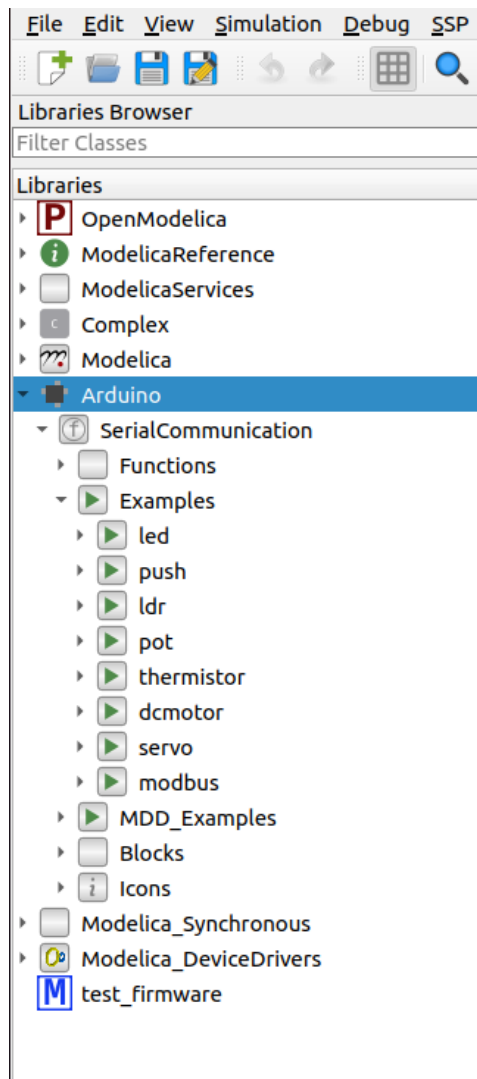

Figure 3.44: Examples provided in the OpenModelica-Arduino toolbox
5. Now, we will locate the models for running the experiments in the upcoming chapters. Under Libraries Browser, click on the arrow before Arduino to see the contents inside this package. Next go to SerialCommunication -> Examples. Under Examples, you will find the list of experiments like led, push, etc., as shown in Fig. 3.44.